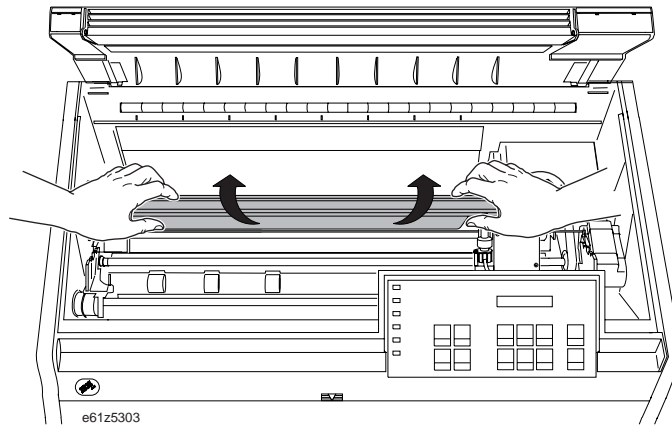

Figure 27. Rotating the Paper Bail into Position
- Rotate the paper bail, moving the top toward the rear, as shown in Figure 27. Ensure the paper bail snaps into place.